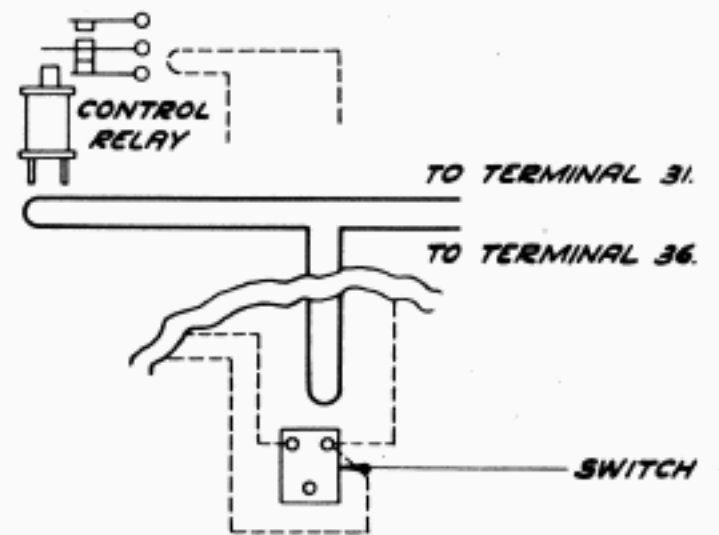

FIGURE 4
3. In order to render the motor control relay inoperative, wiring changes at the control relay and switch are necessary, as shown in Figure 4.